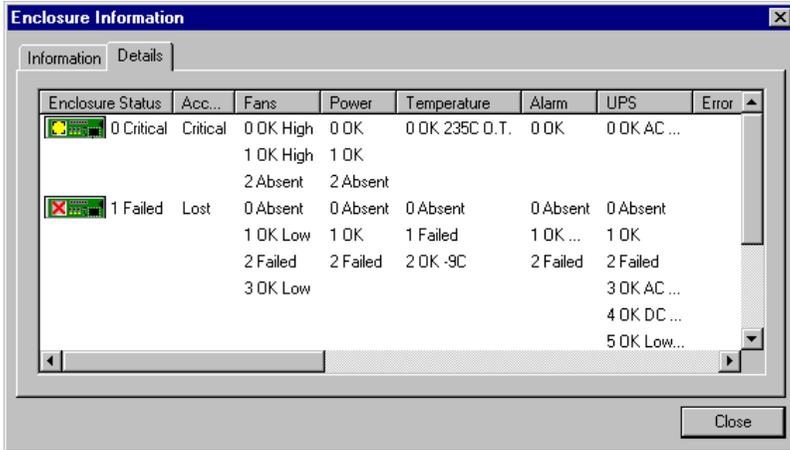

Figure 5-27. SES Enclosure Information: Details Page
Enclosure Information Details page (Figure 5-27) displays the following about the currently-available Fibre enclosures:
- An information field (may need to scroll, not visible in Figure 5-27 above), which contains most of the items listed on the Information page, for easier cross-reference